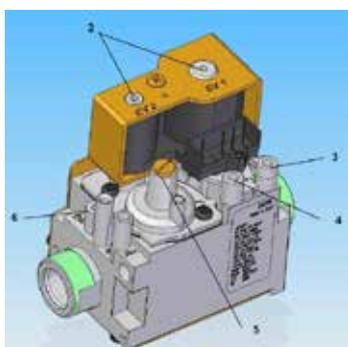

Fig. 4.2.1 Gas valve
<ul style="list-style-type: none"> <li>• Set the maximum fan speed according to section 4.3.1. Check the gas flow rate on the gas meter for compliance with Table 4.3.2.1. If you need to change the gas flow, turn the screw (item 6, Fig. 4.2.1).</li> <li>• Turn the screw to the left to increase the flow, turn the screw to the right to decrease it. Use the gas meter to read and set the gas flow value.</li> </ul>	<ul style="list-style-type: none"> <li>• Set the minimum fan speed according to 4.3.1</li> <li>• During the boiler's operation, measure the gas inlet pressure at the measuring point (item 3, Fig. 4.2.1). The pressure depending on the type of gas is given in Table 4.3.2.1,</li> <li>• Remove the cap from the measuring point (item 5, Fig.4.2.1.)</li> <li>• Set the minimum gas flow according to the values given in Table 4.3.2.1 by using the adjusting screw (item 5, Fig. 4.2.1),</li> <li>• Turn the screw to the right to increase the flow, turn the screw to the left to decrease it.</li> </ul>
<ul style="list-style-type: none"> <li>Set the maximum fan speed according to section 4.3.1</li> <li>During the boiler's operation, measure the gas inlet pressure at the measuring point (item 3, Fig. 4.2.1). The pressure depending on the type of gas is given in Table 4.3.2.1</li> <li>Connect the flue gas analyser</li> <li>Using the adjusting screw (item 6, Fig.4.2.1), set the gas flow to obtain the required composition of the flue gas provided in Table 4.3.2.1.</li> </ul>	<ul style="list-style-type: none"> <li>Set the minimum fan speed according to section 4.3.1</li> <li>During the boiler's operation, measure the gas inlet pressure at the measuring point (item 3, Fig. 4.2.1.) The pressure depending on the type of gas is given in Table 4.3.2.1</li> <li>Connect the flue gas analyser</li> <li>Remove the cap from the measuring point (item 5, Fig.4.2.1.)</li> <li>Using the adjusting screw (item 5, Fig.4.2.1), set the gas flow to obtain the required composition of the flue gas provided in Table 4.3.2.1.</li> </ul>